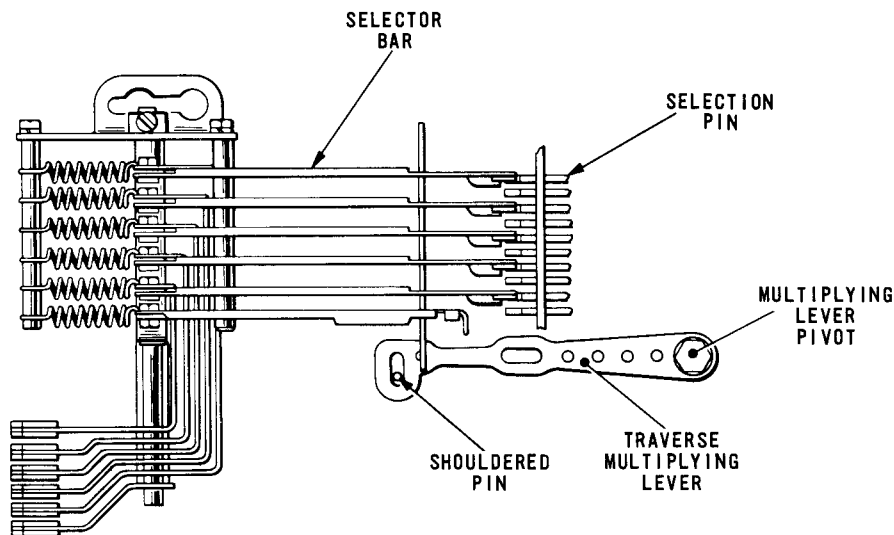

Fig. 4.58 SELECTOR BAR/SELECTION PIN ALIGNMENT
71.1 With the machine in the rest position, check that the selector bars, Fig.4.58, are in alignment with the selection pins. Lift the translator clutch abutment and turn the machine by hand until the pin-box has moved to its alternative position and re-check the alignment of the bars and the selection pins.